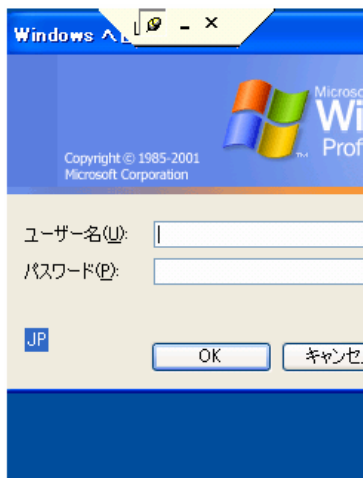

Fig. 4.75
2. Log in the remote PC by inputting remote user name and password. See Fig. 4.75.